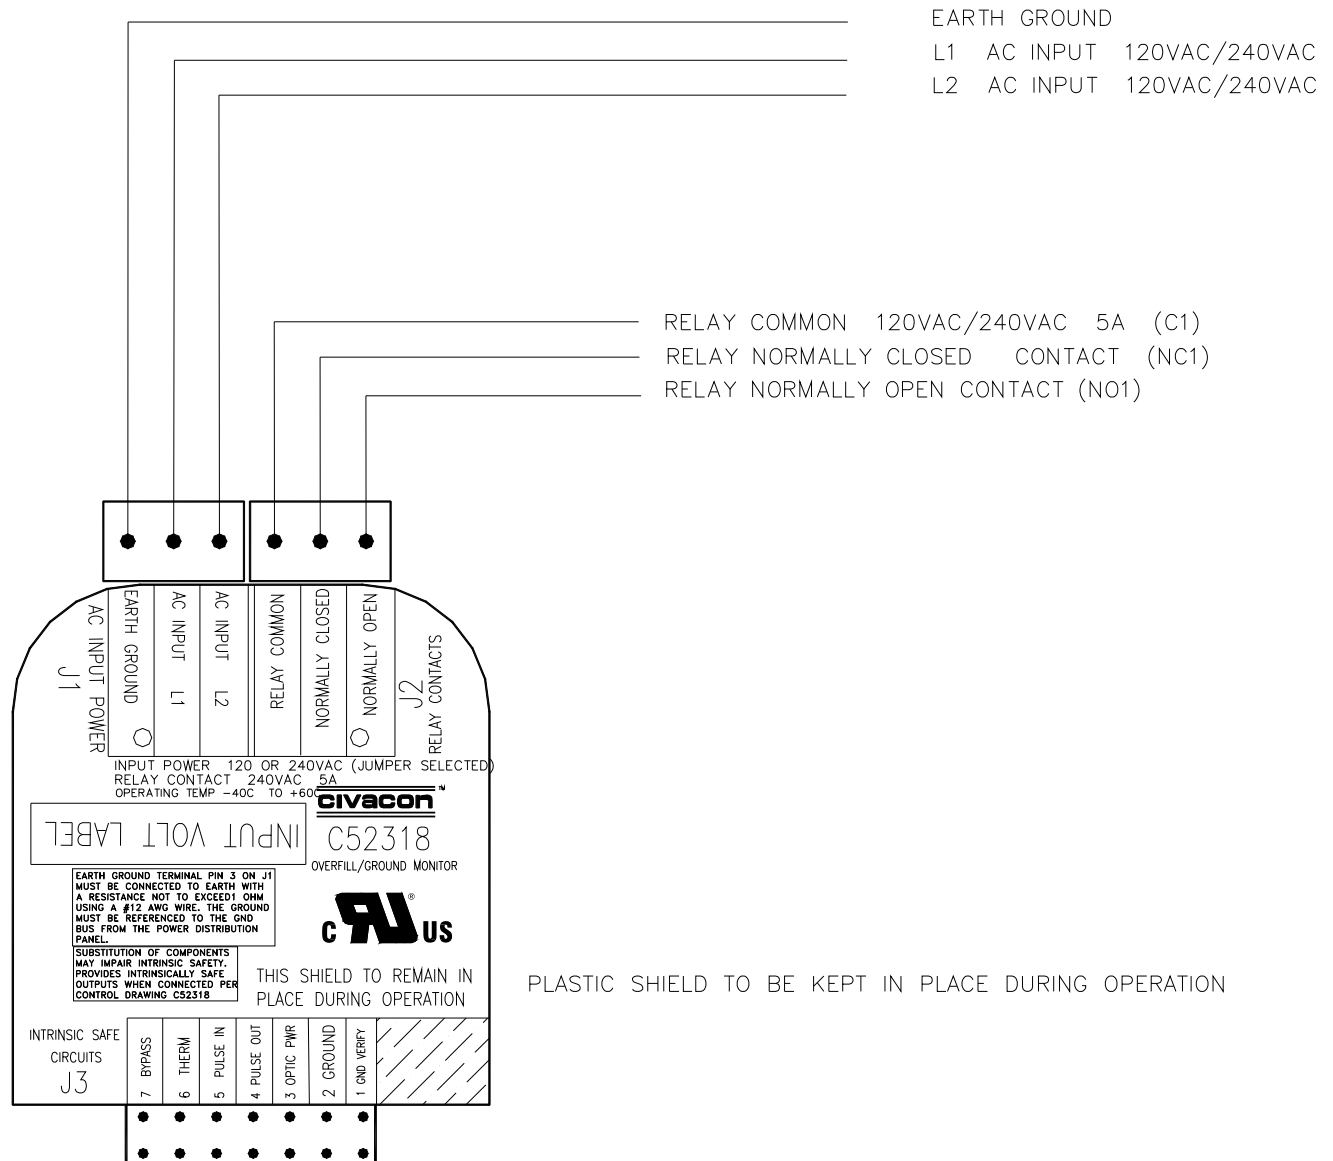

FIGURE 2 - POWER WIRING
Three terminals are provided for the control channel output on the monitor. These are C1 (COMMON 1), NC1 (Normally Closed 1), and NO1 (Normally Open 1), Form C type contacts. The proper control signal source must be wired to these terminals. It is suggested that the control signal source be wired into the C1 (COMMON 1) terminal, as it is the fused control terminal. The wire going to the controlled device should then be connected to the NO1 (or NC1 if applicable) contact of the terminal strip. See notes for Figure 2 concerning contacts C1, NC1, & NO1.
The monitor must be wired according to Figure 2.
1. Before applying AC line power to the 8030 Series Rack Monitor, perform a visual inspection of the power and control wiring according to Figure 2.